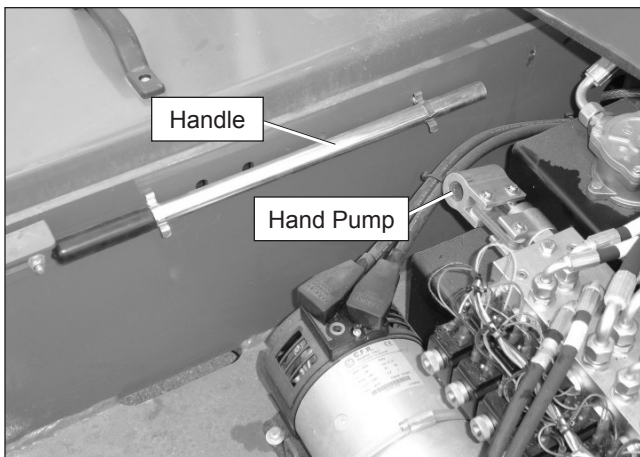

Figure 11.3 – Control Valve Under Front Chassis Cover
2. Insert the handle (refer to Figure 11.3) into the hand pump holder and operate the pump to retract the tip boom.